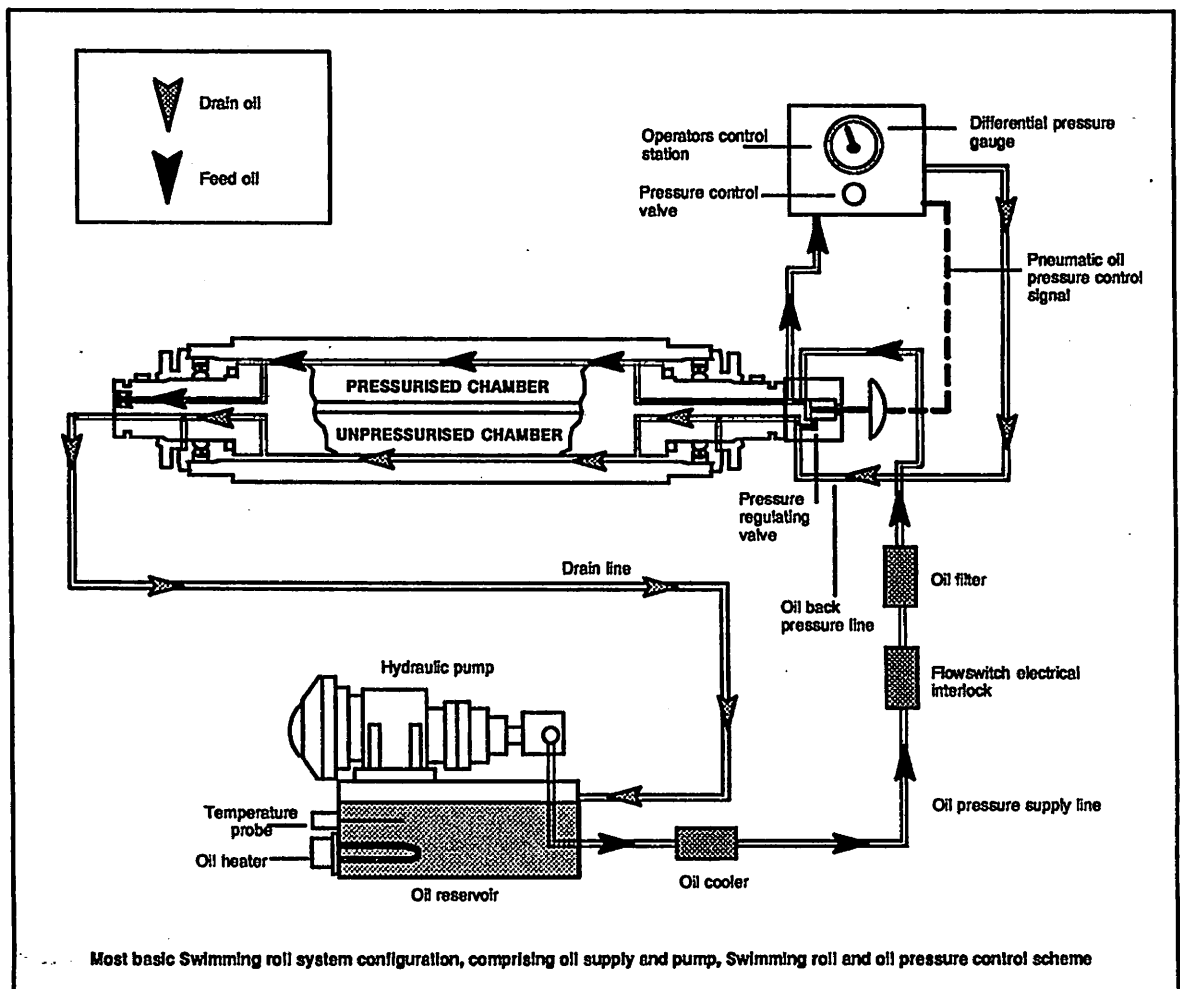

Fig 3
For the following example, consider a two roll calender with a Swimming roll fixed in the bottom position (i.e. pressure chamber in top position) and a top, externally loaded mating roll. Fig 3 details the nip profile, the extent of the deflection of the rolls has been exaggerated for illustration purposes.
4. The control unit (Fig 3)